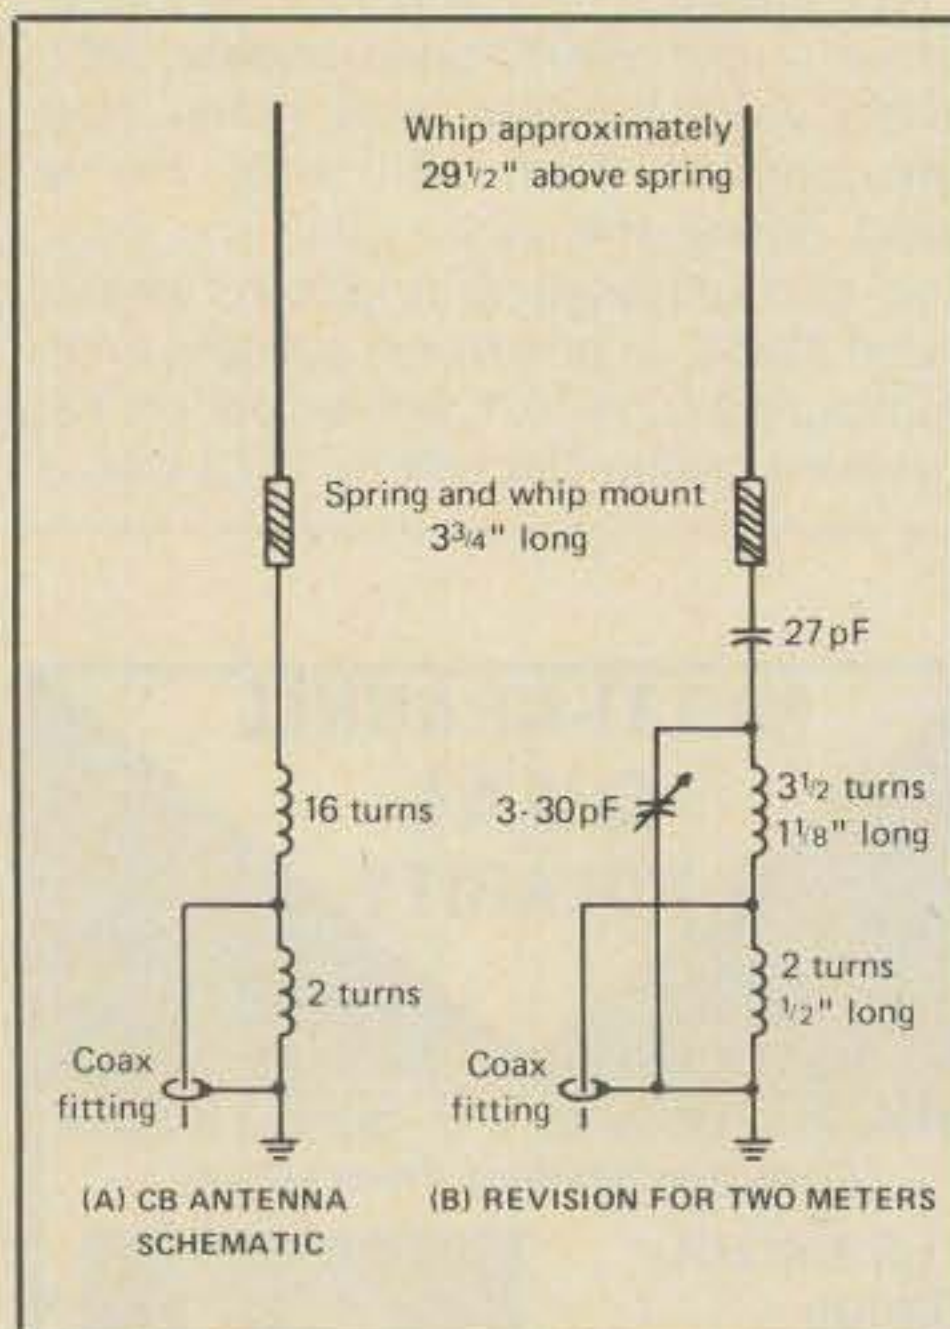

Fig. 1— The original and revised antenna wiring.
The schematic for the baseloaded quarter-wave CB antenna is shown in fig. 1(A). Fig. 1(B) illustrates the 2 meter adaptation made from it. The loading coil consisted of two turns spaced about 1/4 inch to the tap for the 50 ohm input, and about 16 turns closewound for the base load of the whip. In order to make the